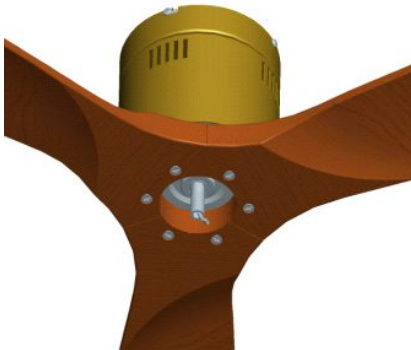

Fig 7.2
7.2 Three blades installed are shown in Fig 7.2.